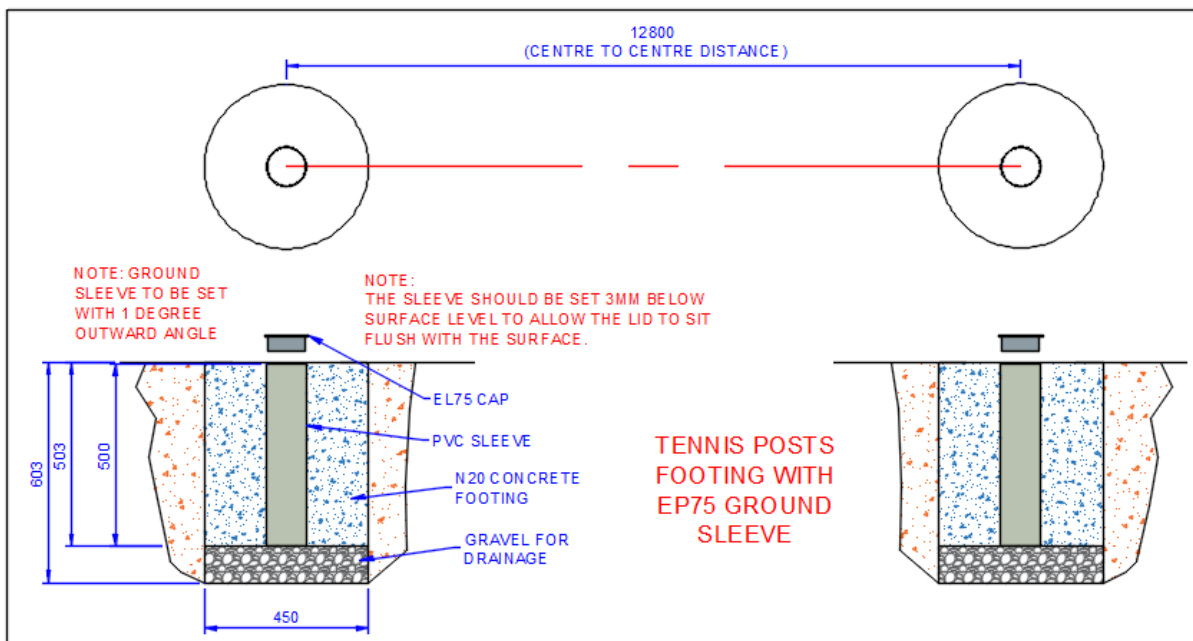
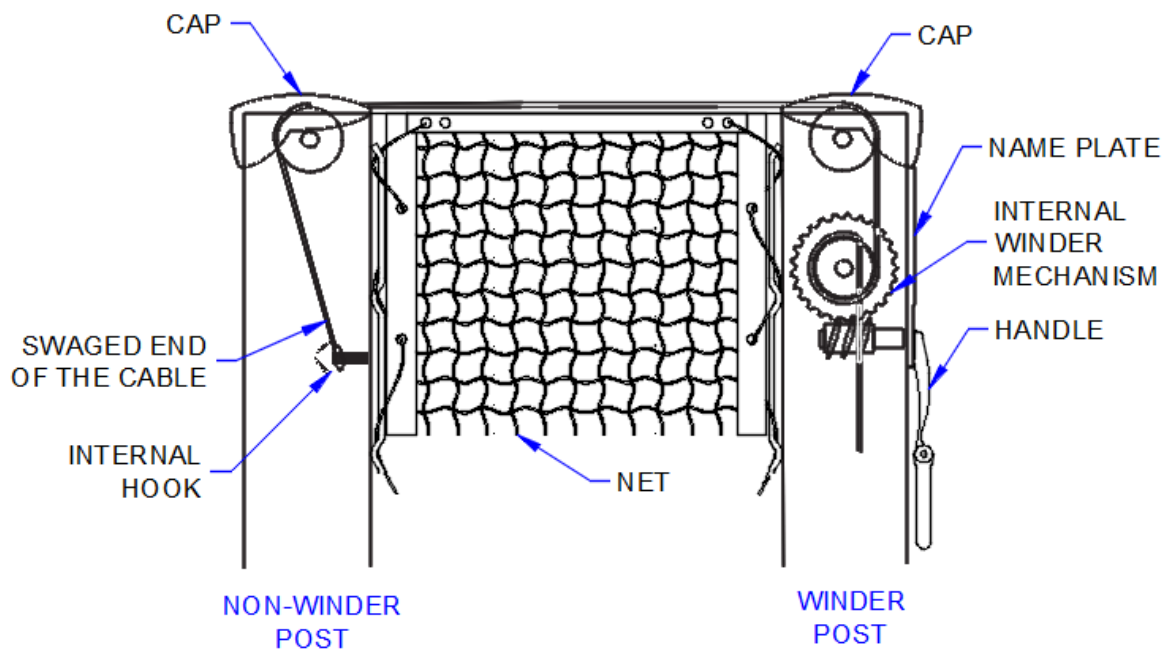

Figure 2: EL75 Cap Footing Details
Figure 5: Net Installation Details
- *Please refer to Figures 2,3 & 4 for further details. The ground sleeves must be installed in a specific orientation as shown in Figure 5 and it is the Installer/Contractor's responsibility to ensure that.*